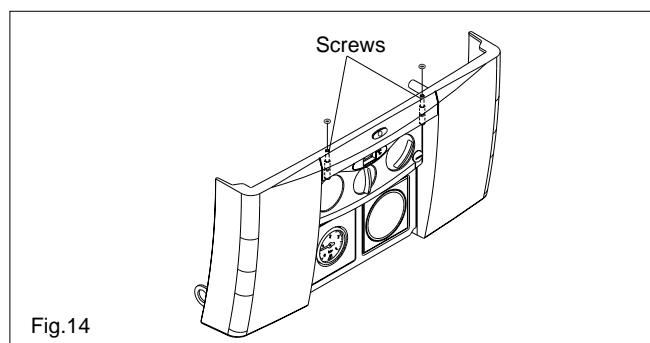

Fig. 14
- locate and unscrew the 2 screws that secure the controls fascia to the appliance casing (see fig. 14);